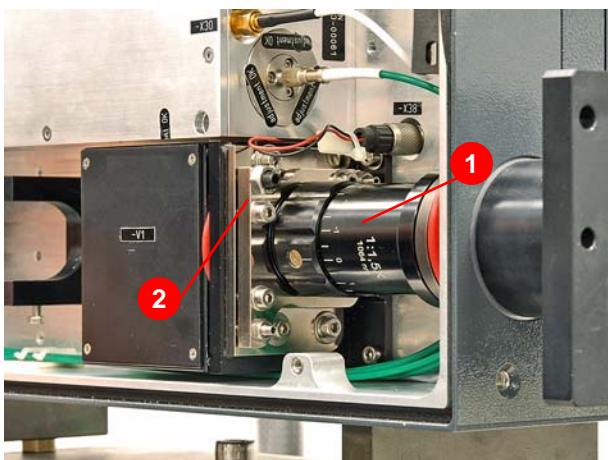

Figure 6.27 Dismantle the beam expander.
5. Remove the beam expander (1) (Figure 6.27) and the mount (2).